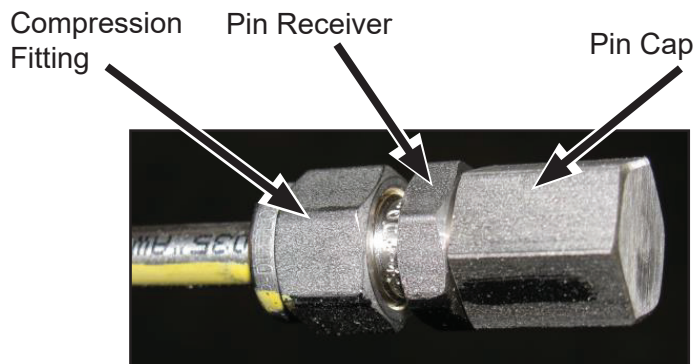

Figure 35: Wire from the LT102B being cut at the pin receiver.
1. Remove and retain the pin cap from the pin receiver (Figure 35). Hold the pin receivers flats steady with a 9/16" wrench and use a second wrench to unscrew the pin cap. **DO NOT** turn the pin receiver.